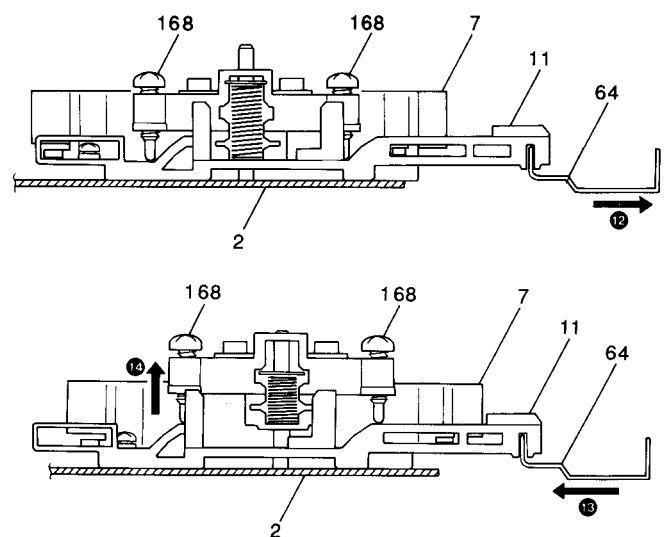

Fig. 9
- d) The shift plate (11) is moved in direction of arrow (❶), and head moves up and down per arrows (❷ , ❸ and ❹) in Fig.9.